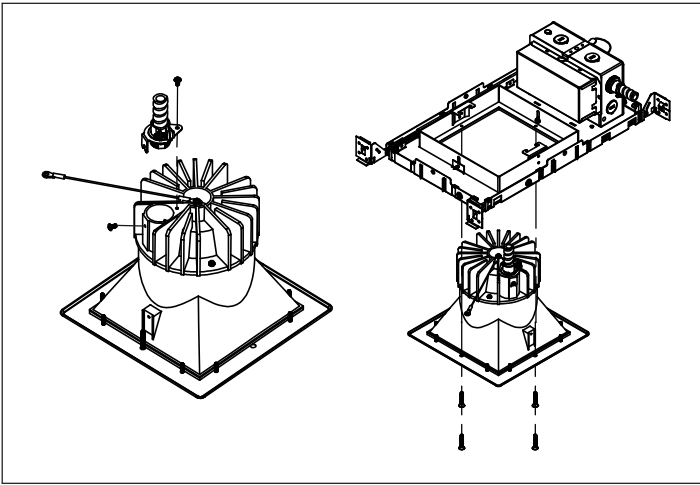

Figure 1
1. Remove screws, lanyard and disconnect electrical connection in Flex Whip to release it from Downlight Module. Remove screws to release Downlight Module from Housing(Fig. 1)